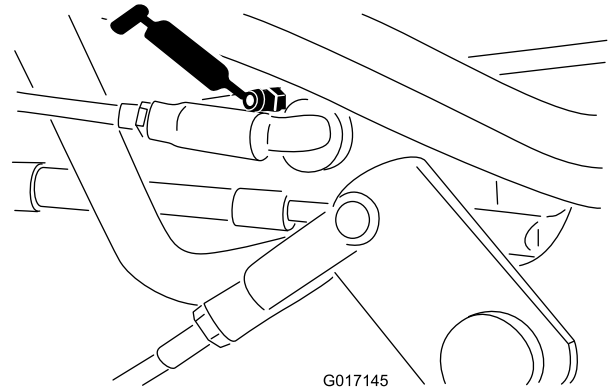
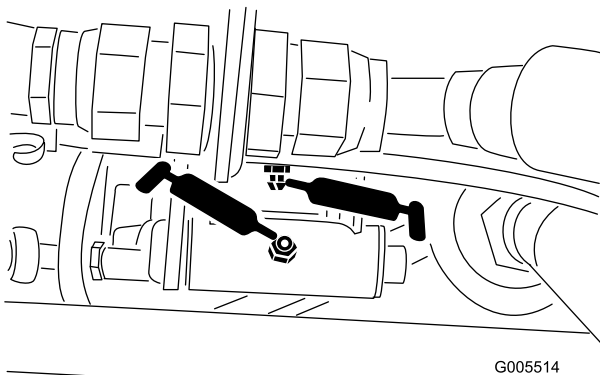

Figure 44
Figure 43
- Speed selector linkage (Figure 43 and Figure 44)